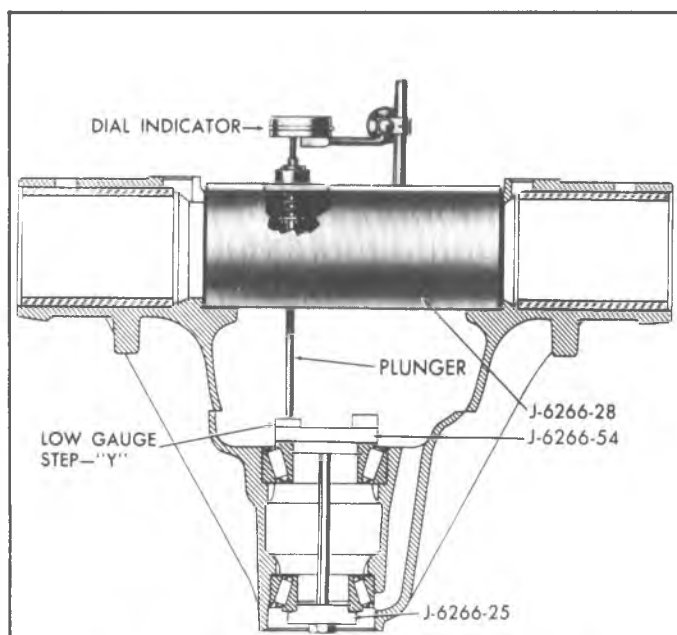

Fig. 0-2—Pinion Gauging Tools—8 1/2" Ring Gear
1. Set up the tools as shown in figure 0-2.